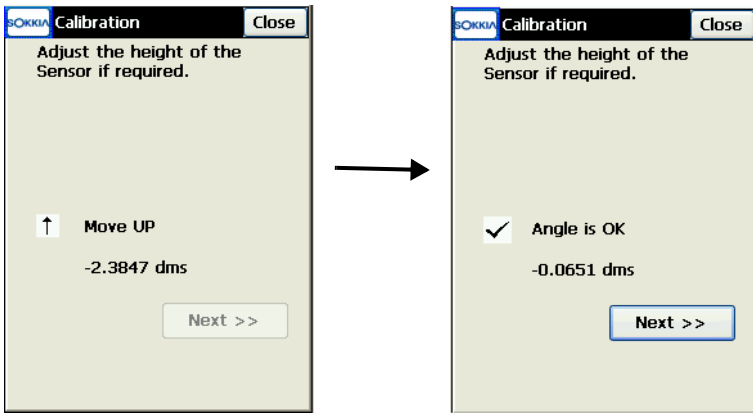

Figure A-15. Check Angle of Sensor
- Adjust the height of the sensor so the angle is less than  $1^\circ$ . Once the Angle is OK, tap **Next** (Figure A-15 on page A-10).